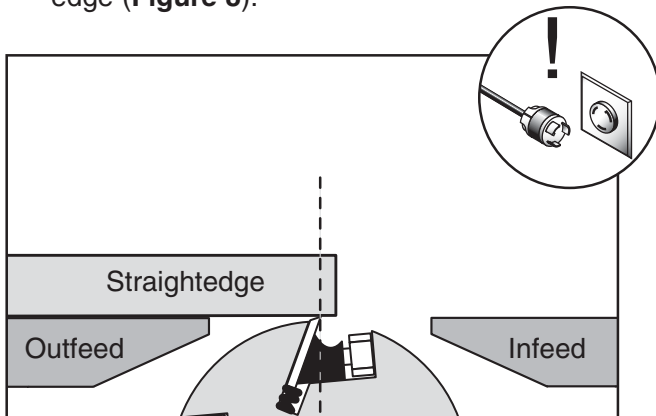

Figure 8. Using a straightedge to align outfeed table height with knife at TDC.
3. Raise or lower the outfeed table until the knife (or carbide insert) just touches the straightedge (**Figure 8**).